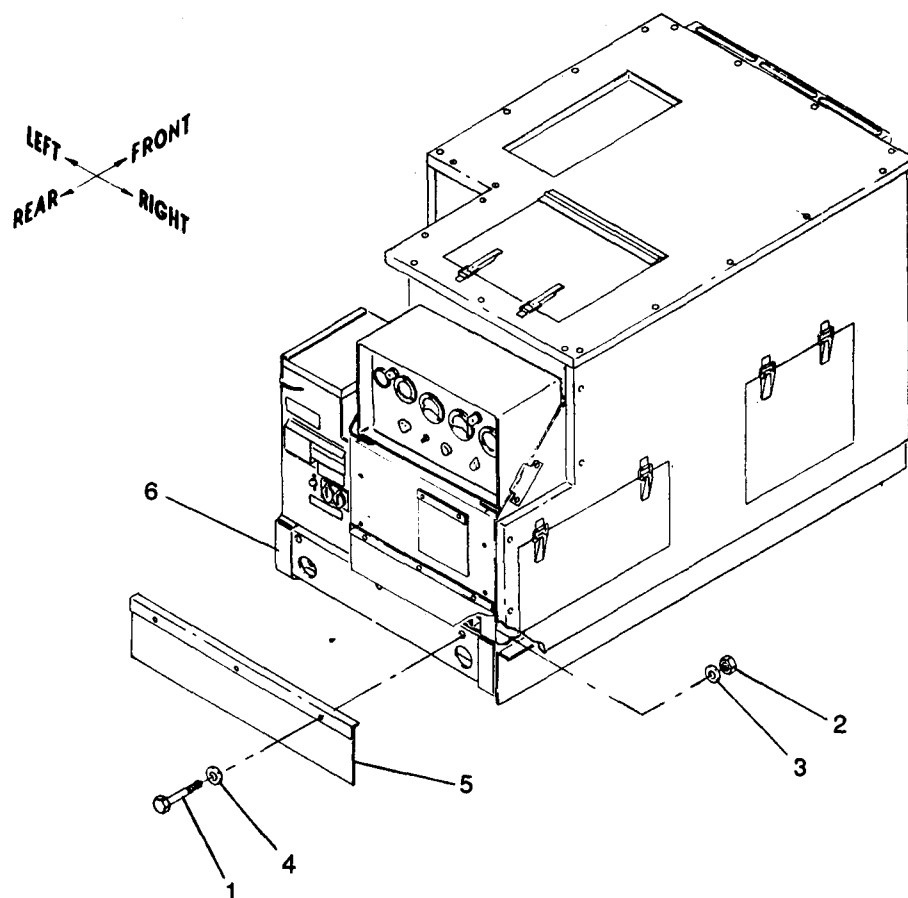

Figure 5-11. Rear Flap Assembly, Removal and Installation
a. Removal. See figure 5-11. Remove rear flap assembly from skid as follows:
(1) Remove three screws (1) and locknuts (2), and six washers (3 and 4) securing rear flap assembly (5) to skid (6).
(2) Remove rear flap assembly (5).
b. Installation. See figure 5-11. Install rear flap assembly as follows:
(1) Position rear flap assembly (5) on skid (6) and install three screws (1) and locknuts (2), and six washers (3 and 4).
(2) Torque screws (1) to 16 ±2 ft-lbs dry.